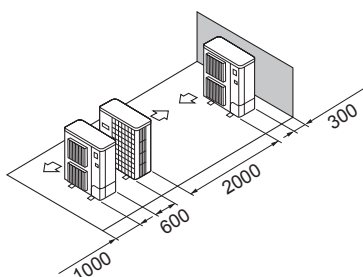

Fig. 2-16
- ⑤ Raspored jedne paralelne jedinice (Fig. 2-16)